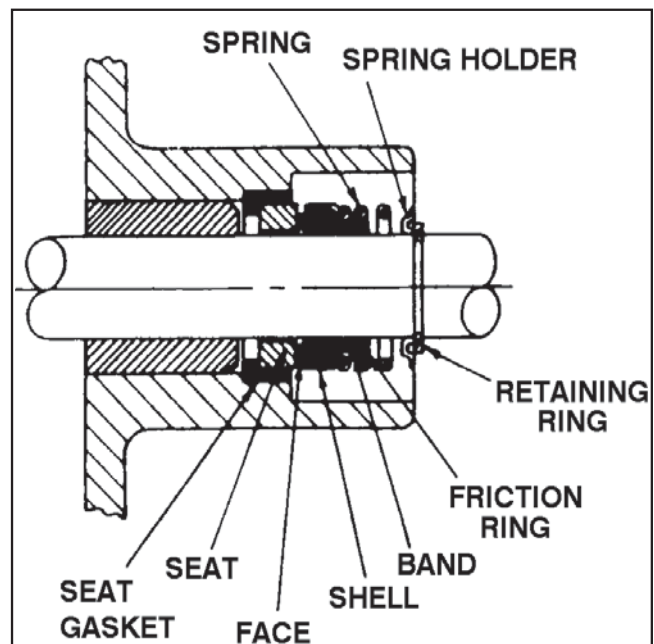

Figure 9. Shaft Seal Assembly
10. Refer to Figure 9 on page 18 and assemble the shaft seal assembly as follows: (a) Apply a light coat of AX vacuum oil to the seat of the shaft seal assembly. Place the seat gasket on the seat and carefully slide the seat and gasket over the shaft into position on the pump. Press in both pieces until they are seated uniformly against the shoulder. Do not damage the gasket or mar the face of the seat. (b) Coat the rotating portion of the shaft seal (face, shell, bank, and friction ring) with AX Vacuum Oil. Cover the retaining ring groove and the keyway on the shaft with plastic tape or by forming a thin piece of metal over the shaft. Coat the shaft and the metal cover with oil. Carefully push the rotating portion of the shaft seal over the shaft by means of a pipe sleeve or a large washer. Be careful not to damage the seal face or cut the rubber. Remove the cover from the shaft. (c) Place the spring and the spring holder on the shaft and compress the spring beyond the retaining ring over the shaft until it snaps into its groove. Assemble the discharge valve, valve block; two valve springs, and the two valve guide rods on the cylinder, replacing them in the same position as they were removed.